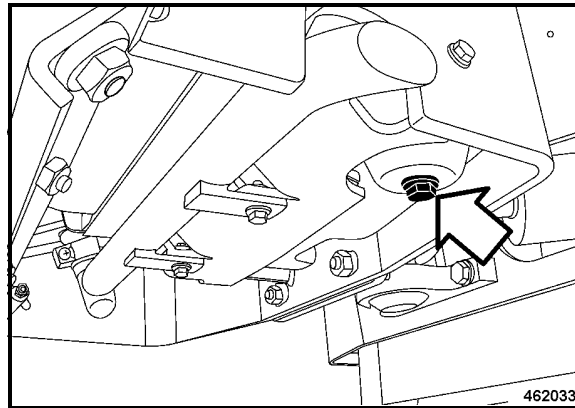

Fig. 144
- Place the suitable container under the fuel tank drain plug(Fig. 144).